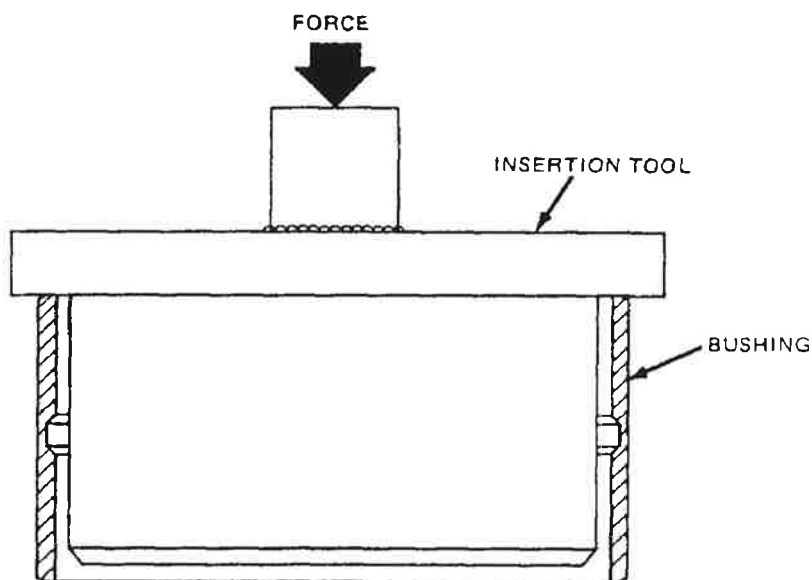

Figure 4-11. Bushing Insertion Tool
4. Use an insertion tool as shown in Figure 4-11 to press the chilled bushing into the rod. The tool will aid in keeping the bushing square as it enters the rod. Do not allow the bushing to warm up during this procedure. Excessive force on these thin-walled bushings will cause distortion.